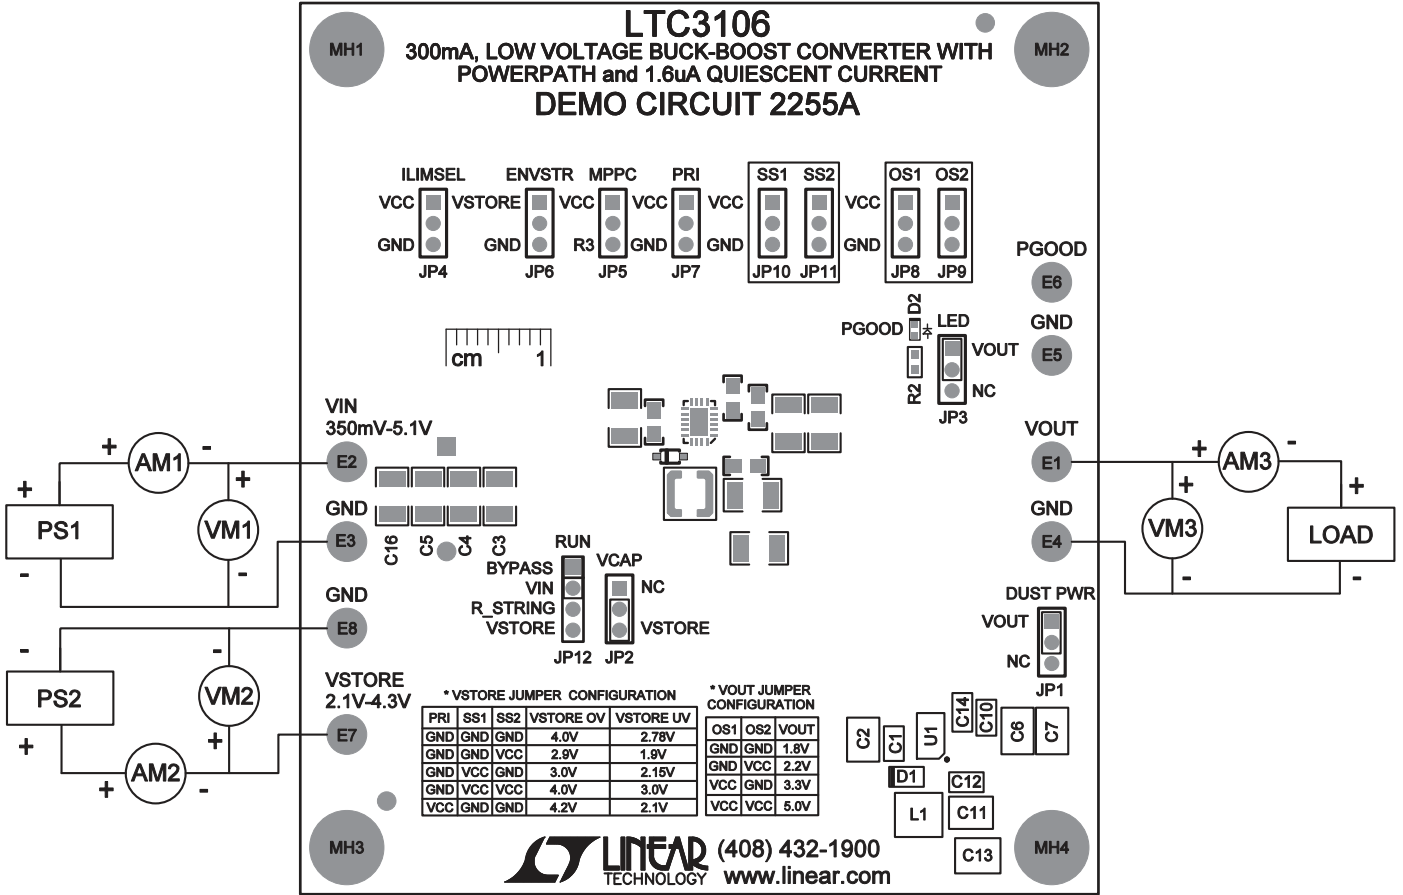

Figure 5. Proper Measurement and Equipment Setup
Using short twisted pair leads for any power connections and with all loads and power supplies off, refer to Figure 5 for the proper measurement and equipment setup. The power supplies (PS1 and PS2) should not be connected to the circuit until told to do so in the procedure below.
2. With power OFF connect the power supplies (PS1, PS2) as shown in Figure 5. If accurate current measurements are desired (for efficiency calculation for example) then connect ammeters in series with the supplies as shown. The ammeters are not required however.
3. Connect a 3.3mA load (1kΩ) to V_{OUT} as shown in Figure 5. Connect an ammeter in series if accurate current monitoring is desired.